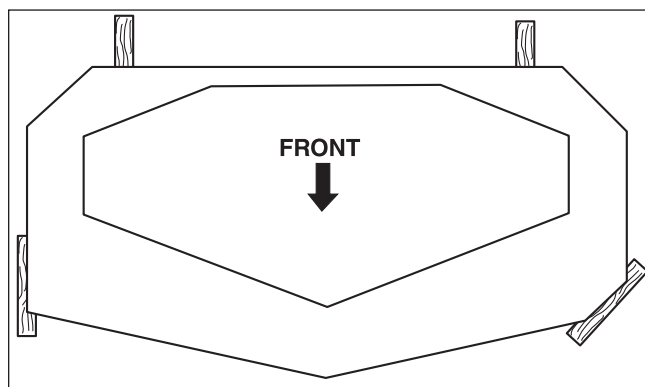

Figure 53. Block Positions
4. Block up the mower deck until all hanger chains are slack. See Figure 53.